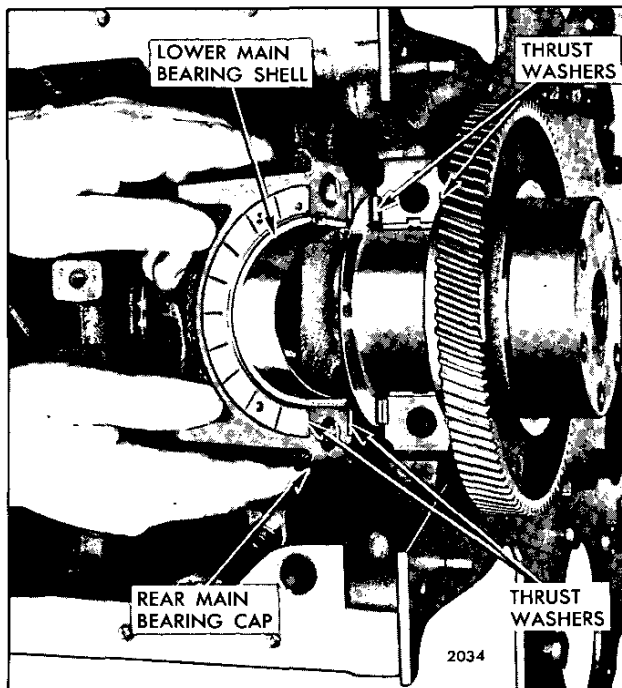

Fig. 9 - Crankshaft Thrust Washers in Place
Inspect the crankshaft thrust washers (Fig. 9). If the washers are scored or worn excessively or the crankshaft end play is excessive, they must be replaced. Improper clutch adjustment can contribute to excessive wear on the thrust washers. Inspect the crankshaft thrust surfaces. Refer to *Install Crankshaft* in Section 1.3. If, after dressing or regrounding the thrust surfaces, new standard size thrust washers do not hold the crankshaft end play within the specified limits, it may be necessary to install oversize thrust washers on one or both sides of the rear main bearing. A new standard size thrust washer is .1190" to .1220" thick. Thrust washers are available in .005" and .010" oversize.
3. Assemble the crankshaft thrust washers before installing the rear main bearing cap (Fig. 9). Clean both halves of each thrust washer carefully and remove any burrs from the washer seats — the slightest burr or particle of dirt may decrease the clearance between the washers and the crankshaft beyond the specified limit. Slide the upper halves of the thrust washers into place. Then, assemble the lower halves over the dowel pins in the bearing cap. The main bearing caps are bored in position and stamped 1, 2, 3, etc. They must be installed in their *original* positions with the marked side of each cap facing the same side of the cylinder block that carried the engine serial number.